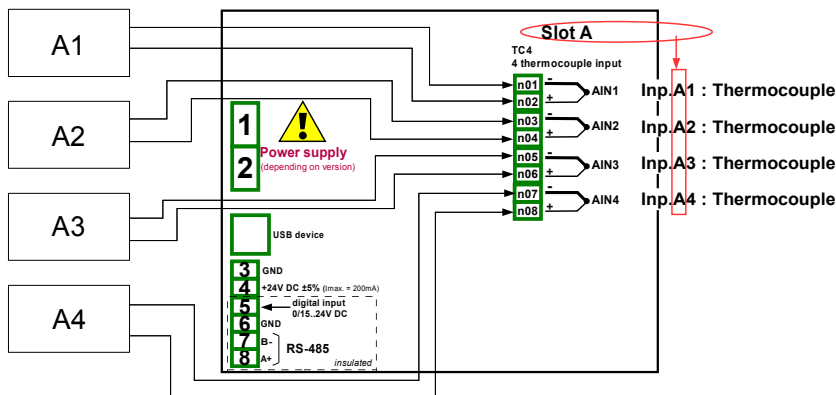

Fig. 7.54. Schematic diagram for the **TC4** module
Before measuring temperature the thermocouple sensors should be connected to the device. An example of how the connection is shown in Fig. 7.54 (see also **Appendix 8.3tc4, tc8 – THERMOCOUPLE SENSOR MEASUREMENT modules**).
- choose as the source - **Inp. A1: Thermocouple** (see the connection in Fig. 7.54), press the **Source configuration** button to set the source configuration options,